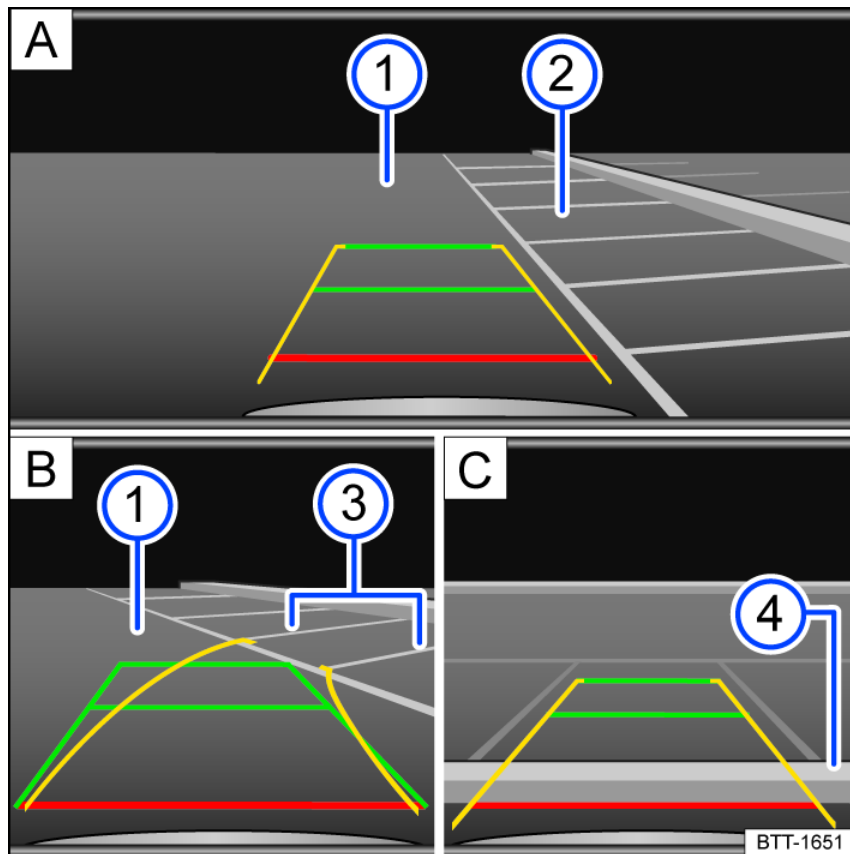

Fig. 123 Infotainment system: Parking perpendicular to the road.
3. Position your vehicle in front of the parking space *fig. 123*  .
- Steer so that the yellow lines lead into the parking space. The green and yellow lines must align with the side boundary lines fig. 123 **B** 3.
- Stop when the red line reaches the rear boundary fig. 123 **C** 4.